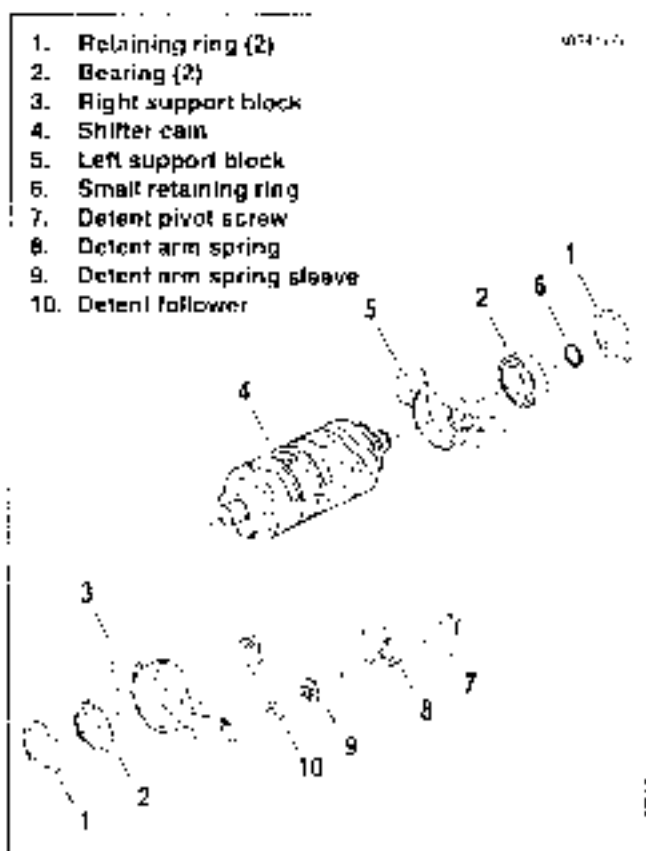

Figure 7-5. Shifter Cam Assembly
9. See Figure 7-5. Disassemble shifter cam assembly if necessary.
- a. Right support block (3) is a slide fit over the shifter cam (4). Remove retaining ring (1) to remove bearing (2). Discard retaining ring.
- b. Remove small retaining ring (6) to free left support block (5) from shifter cam. Remove retaining ring (1) to free bearing (2). Discard retaining rings.
10. Remove detent pivot screw (7) to free the detent spring (8), spring sleeve (9) and detent follower (10).
1. See Figure 7-5. Clean all parts except bearings (2) with solvent. Blow parts dry with low pressure compressed air.
2. Inspect bearings (2) and shifter cam ends. If ends of shifter cam are pitted or grooved, replace the shifter cam and bearings. Install new bearings in support blocks by pressing on the side of the bearing with letters stamped on it. Stamped side of bearing should face outward when support block is installed on cam.
3. Inspect shifter cam (4) for cracks or wear and replace if necessary.